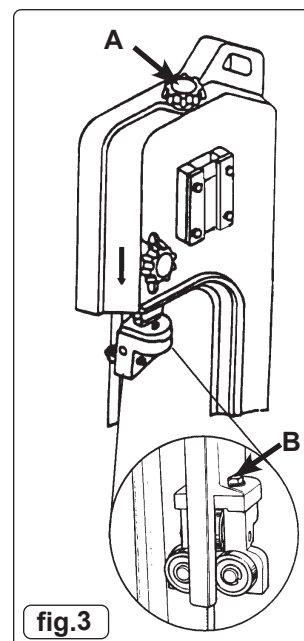

fig.3
- 6.1.2. Adjust the blade tension with knob (95) (fig.3.A), so that light thumb pressure on the blade midway between the blade wheels produces a deflection of approximately 1mm. **DO NOT** over tighten.
- 6.2.1. Correct guide bearing (fig.3.B) adjustment is important so that the blade runs smoothly and evenly without twisting or snagging anywhere. Each of the outer guide bearings is mounted on an adjustable eccentric bush.